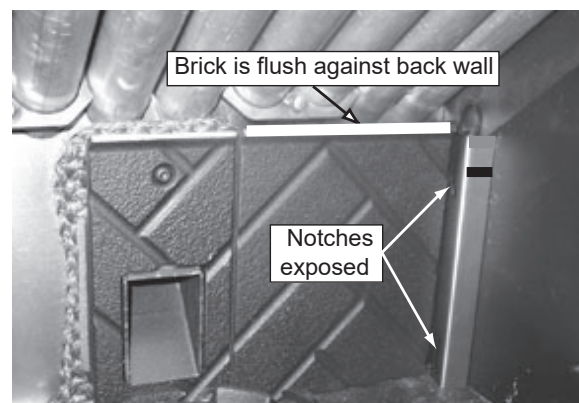

Figure 27.5
2. The brick will be flush against the back wall and notches exposed in the side bracket (**Figure 27.5**).
6. The baffle does not completely cover the top of the firebox. There is an opening on the left as shown in **Figure 27.5**.